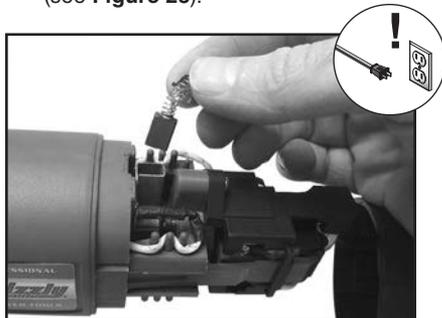

Figure 23. Example of replacing motor brushes (1 of 2).
2. Locate and remove (2) motor brushes (see **Figure 23**).